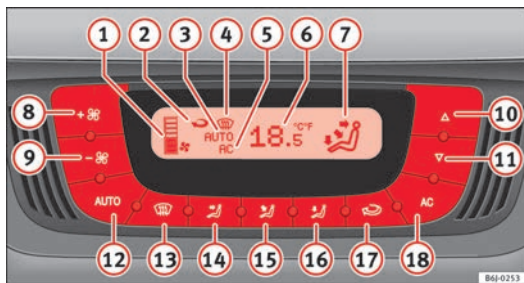

Fig. 95 Climatronic controls on the dash panel
- Press keys **10** and **11** ⇒ fig. 95 to adjust temperature.
- Press the button **AUTO**. The indication ⇒ fig. 95 **7** is visible.
- Press keys **10** and **11** ⇒ fig. 95 to adjust the desired temperature inside the vehicle. We recommend 22 °C (72 °F).
- Press one of the buttons ⇒ fig. 95 **14** to **16** or press the blower control **8** and **9** down. The indicator is switched off **3**.
The blower can be adjusted with buttons **8** and **9** ⇒ fig. 95. If the blower is off (level **1** is not shown on the screen) and button **9** is kept pressed down, the Climatronic switches off. Then **OFF** is displayed on the screen.
- Press the button  to switch air recirculation mode on or off. This is ON if the symbol  ⇒ **fig. 95** is displayed on the screen.